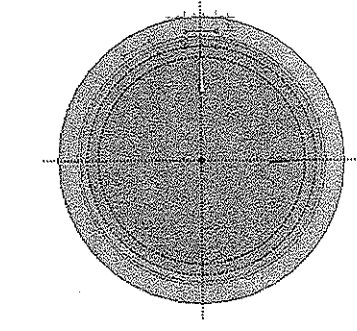

Figure 5-68 Creating instance of the sketch
12. Right-click again and choose **Paste at Plane Origin** to create an instance of the pattern, as shown in Figure 5-68.